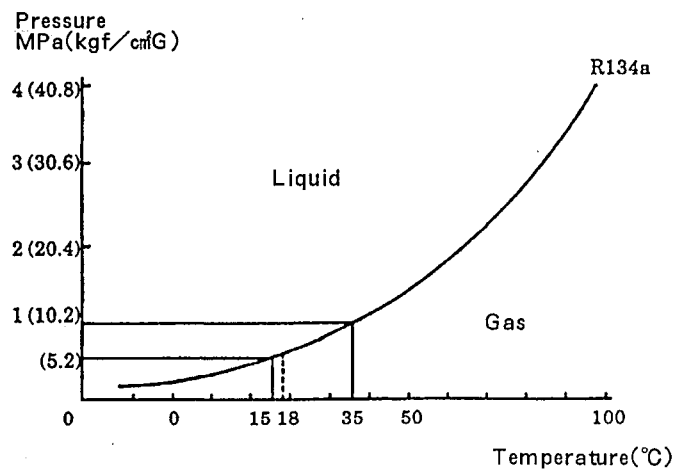

Fig. 5 R134a pressure—Temperature characteristic
(2) Characteristic (Refer to Fig. 5.)
The Fig. 5. describes the refrigerant R134a which is used for air conditioner on which the advantage of the relation of saturation temperature and saturation pressure is utilized. In the Fig. 5, the refrigerant is in the gaseous phase under the temperature and pressure on the under right side, and in the liquid phase under the temperature and pressure on the upper left side.
Imagine that you are using the air conditioner in midsummer. When the refrigerant is vaporized, the heat of vaporization is absorbed from the air in the cab. So, to cool the inside of cab to 25 °C (77°F) or less, the refrigerant must change in phase from liquid to gas of a temperature lower than 25°C (77°F). Fig. 5 shows that the refrigerant has sufficient ability to cool air in the cab under pressure higher than ambient pressure (If the refrigerant requiring pressure lower than ambient pressure to cool air to the required temperature is used, air is contaminated with refrigerant in the circuit lowering the ability of the unit.) And in the process of changing phase from liquid to gas, the refrigerant is cooled and condensed by the outside air of 35°C (95°F) or higher. Therefore, the refrigerant can condense under pressure 10.2 kg/cm² (145psi) or higher as shown in Fig. 5.
For example, to cool air to 15°C (59°F), the refrigerant must be vaporized to a lower temperature than 15°C (59°F) to take in the heat of vaporization from air. To obtain the temperature the pressure of refrigerant in the evaporator is to be 5.2 kg/cm² (74psi) or lower as described in Fig. 5. And to obtain effective cooling performance, the supply flow rate of refrigerant must be regulated so that all the refrigerant supplied to evaporator is vaporized in the evaporator, and changed in phase to dry steam.